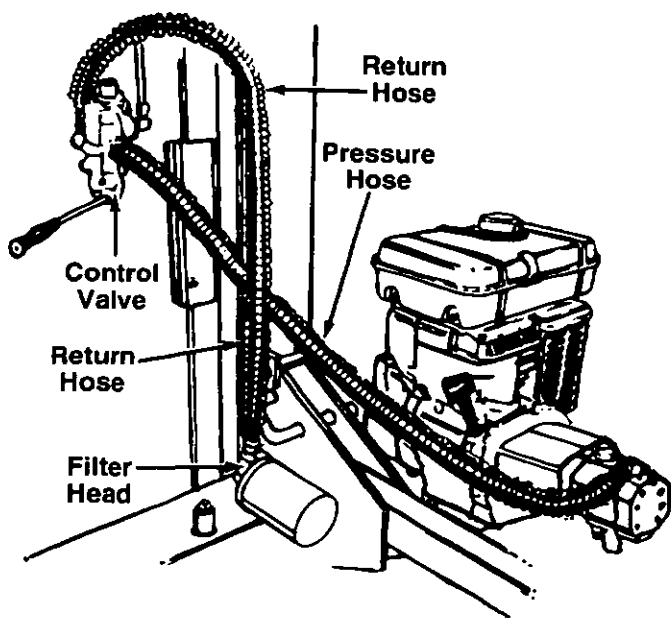

FIGURE 6.
- Remove the protective cap from the fitting on top of the filter head. Attach the end of the return hose to the fitting on top of the filter head. See figure 6. Place the hose clamp at the base of the fitting, and tighten securely.
- The pressure hose is attached to the top of the pump. Route the hose as shown in figure 6. Secure the pressure hose to the bottom of the control valve, using an adjustable wrench.